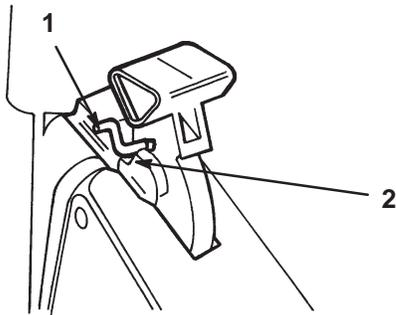

Figure 41
- Pull the handle rearward until the handle latch locks in the notch in the bag door latch (Fig. 41).
Note: In Figure 41, the brush guard is not shown for the purpose of clarity.